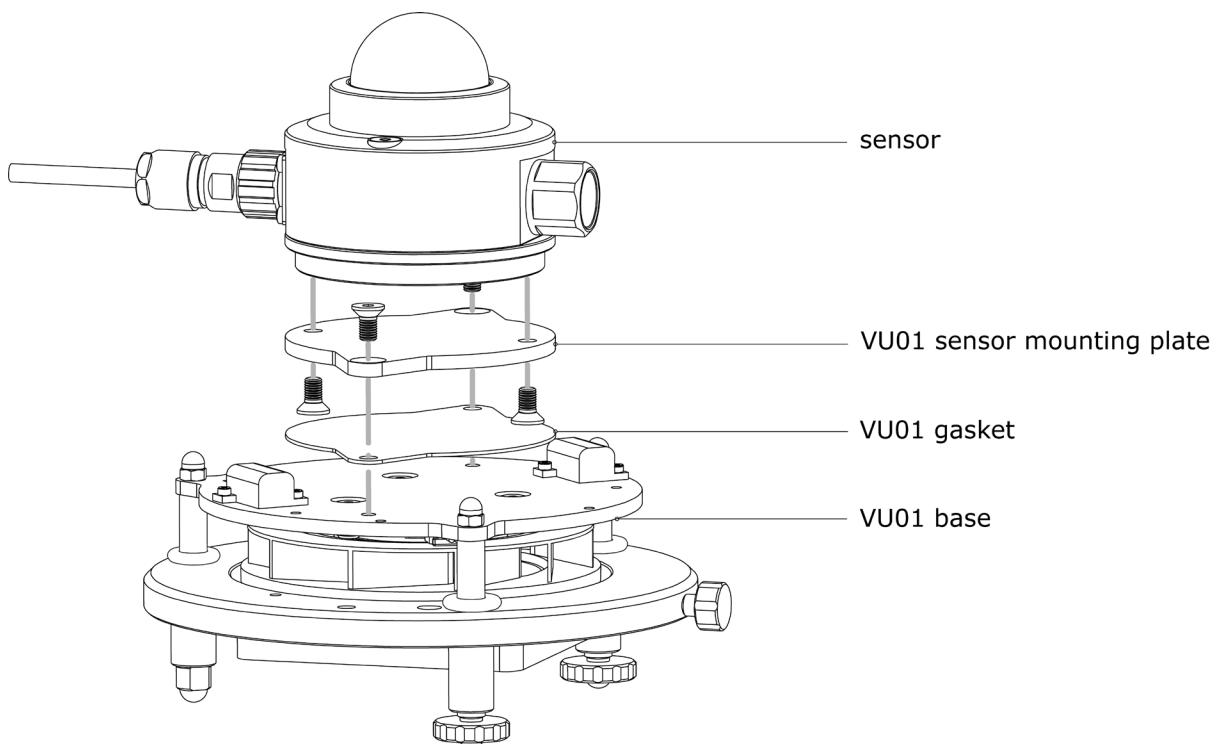

Figure 5.2.1 VU01 base with gasket, sensor mounting plate and SR20 pyranometer: the instrument is affixed to VU01 using four M5x10 screws.
- Attach the sensor mounting plate to the bottom of the sensor using two M5x10 screws (See Figure 5.2.1). A T25 torx key to do so is included with VU01.
- Affix the sensor with the sensor mounting plate to the ventilation unit using two M5x10 screws (See Figure 5.2.1 for placement of the gasket).